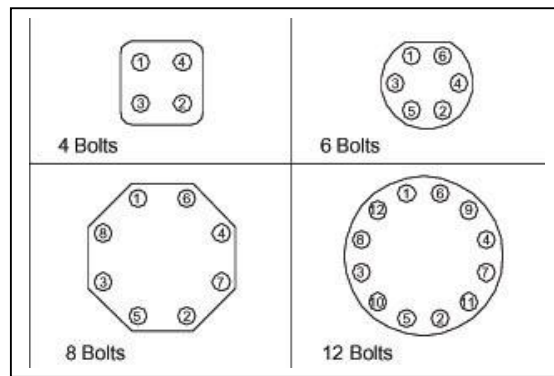

Figure 1
3.When installing flange bolts, always tighten bolts in a sequential pattern as indicated in Figure 1.Bolts should be tightened to the appropriate torque as specified for the bolting material used.